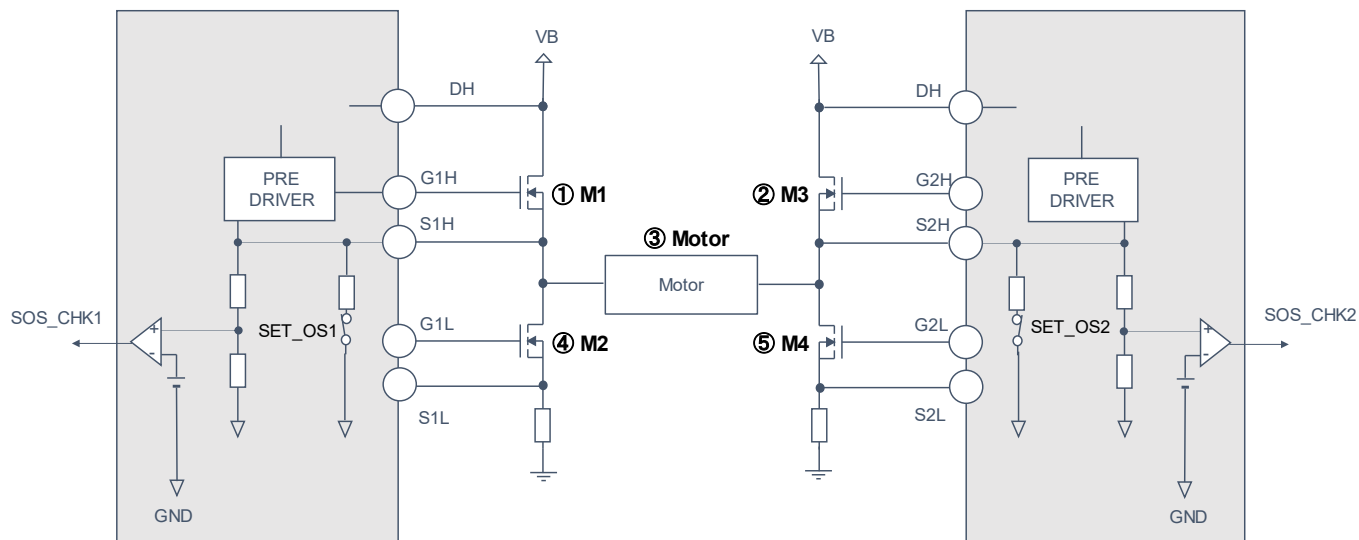

Figure 19. Static Open/Short Detection Function Block Diagram
(Note 3) Illegal (Fail) refers to any fault state other than a single open/short fault such as ① to ⑤ in Figure 19.